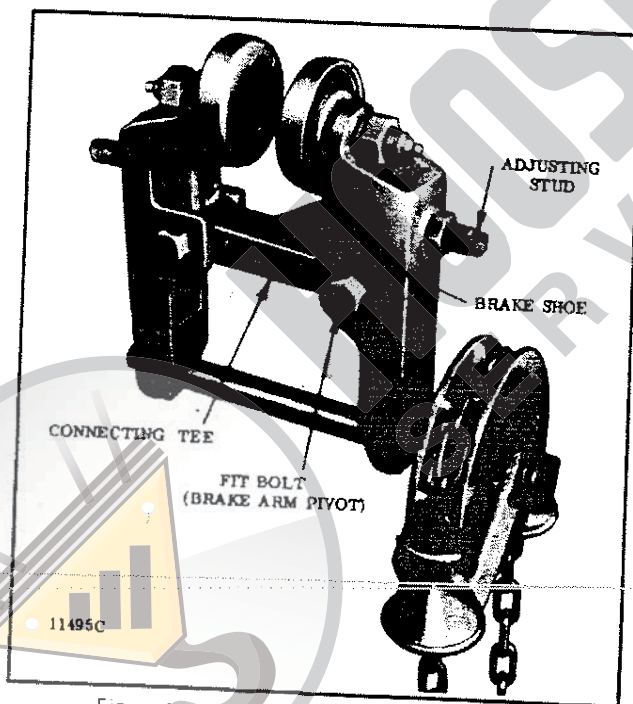

Figure 1-1. BUDGIT Track Clamp Assembly
b. If trolley cannot be mounted over end of beam, remove one hex head fit bolt (brake arm pivot) joining one brake arm assembly to connecting tee, hang clamp on bottom beam flange, re-engage brake arm with connecting tee and reinstall fit bolt. Refer to figure 1-1.